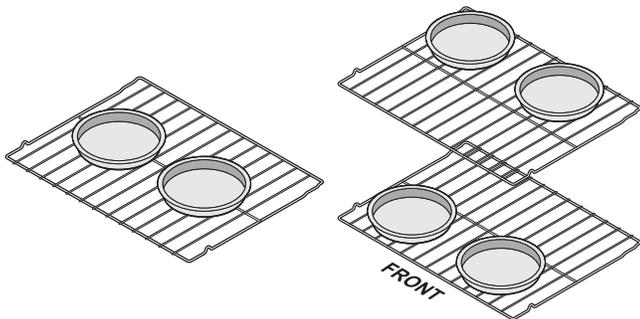

Figure 8: Baking layer cakes with one or two oven racks
- When baking using two oven racks, position cookware to allow at least 2 inches (5 cm) of space between cookware for proper air circulation and position pans as shown in Figure 8.